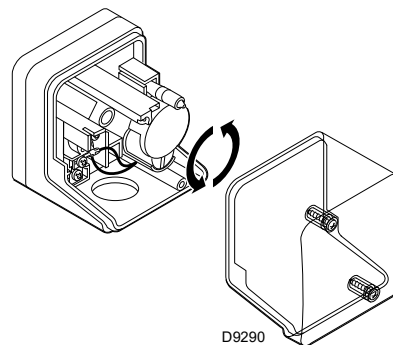

Fig. 40
- Adjust the minimum gas pressure (Fig. 40 on page 34) switch to the start of the scale.
Adjust the minimum gas pressure switch (Fig. 40) after having adjusted the burner, the gas valves and the gas train stabiliser. With the burner operating at maximum output: